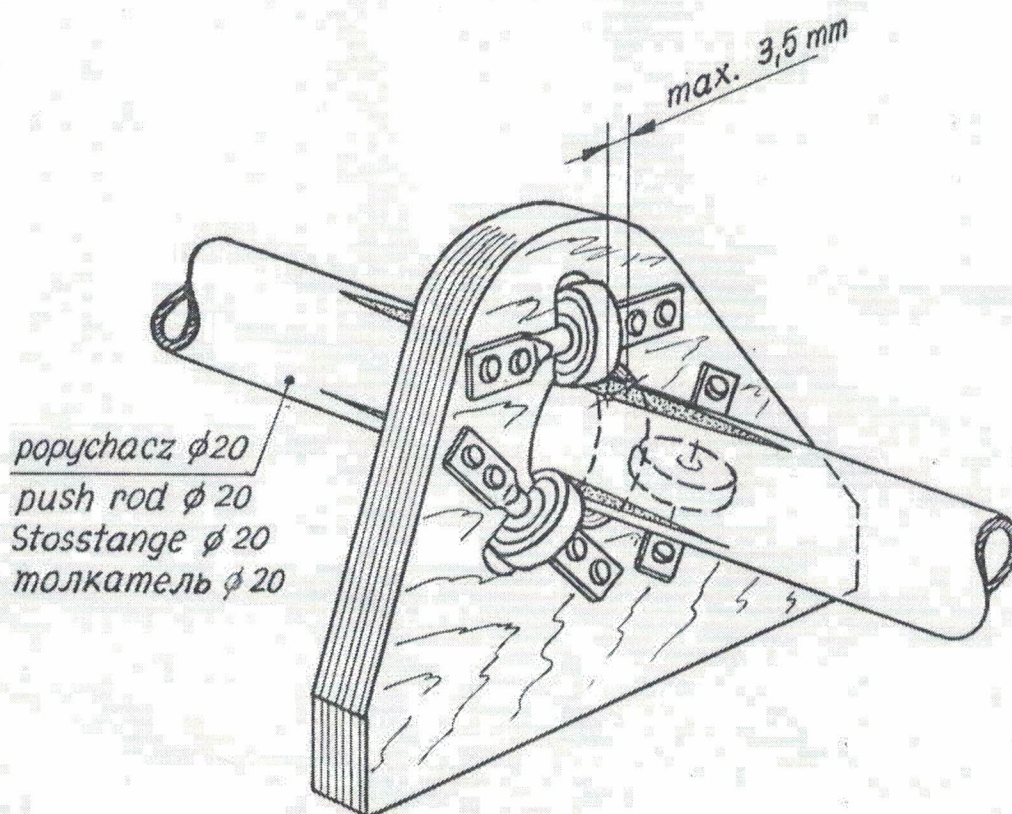

Fig.1.
5.1. The allowed limit width of the roller "trace" on the push-rod surface is 3,5 mm (Fig.1).